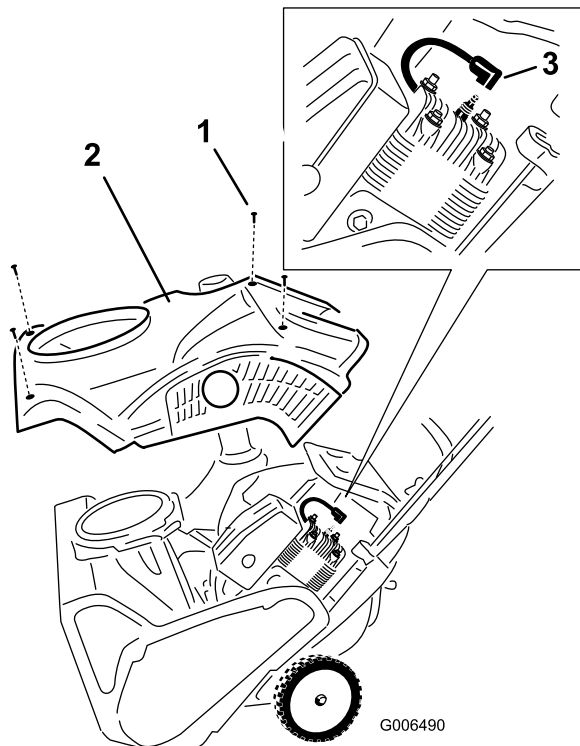

Figure 25
- Remove the shroud (Figure 25).